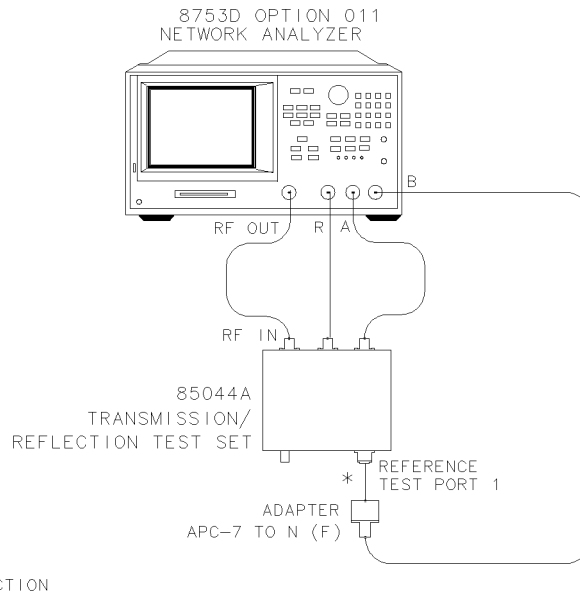

Figure 5-10. Transmission Calibration Setup
- 11 Connect the test port cables as shown Figure 5-10.